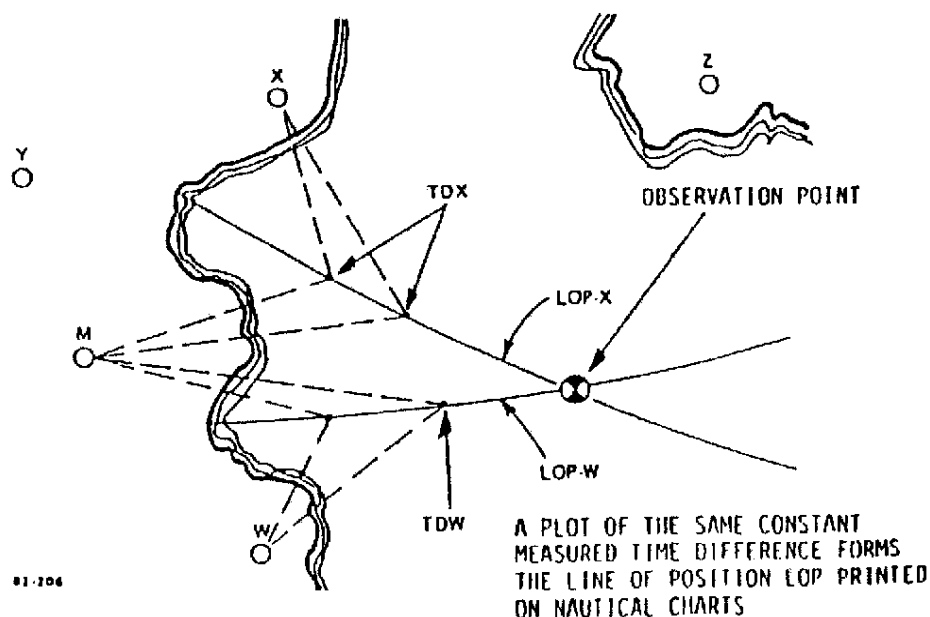

Figure 2 Sample Plots
In Figure 2, the Master (M) and two Secondaries W and X are used for an example. The Master (M) station transmits synchronized Loran C pulses at precise time intervals. The receiver, located at an observation point, synchronizes on these pulses. At precise time intervals later (after the Master station transmission), each Secondary station, W and X, transmit synchronized pulses in timed sequence. The receiver at the observation point measures the slight TD's required for each of the pulses to reach the observation point from the transmitter stations. Your Loran C receiver presents each of the measured Time Differences on the display.
In the example of Figure 2, the TD measured from station W to the observation point is designated TDW and the TD measured from station X is designated TDX. A graphical plot (a line drawn through the locus of all points) of all observation points, having the same constant measured TD (i.e., distance difference) between M and W, the two stations, is a hyperbola and this line is called a Line Of Position LOP-W relative to stations M and W. From the example of Figure 2 it can be seen that the observation point (position) is located somewhere along LOP-W plotted on the chart.
Likewise, from the example of Figure 2, a graphical plot of the same constant measured time difference between M and X forms a Line of Position LOP-X relative to stations M and X, and it can be seen that the observation point is also located somewhere along LOP-X. These Lines of Position are plotted on a Loran C nautical chart and used as navigation aids to determine your position. The intersection or crossing point of the two LOP's is the observation point or position where the receiver is located on a boat.